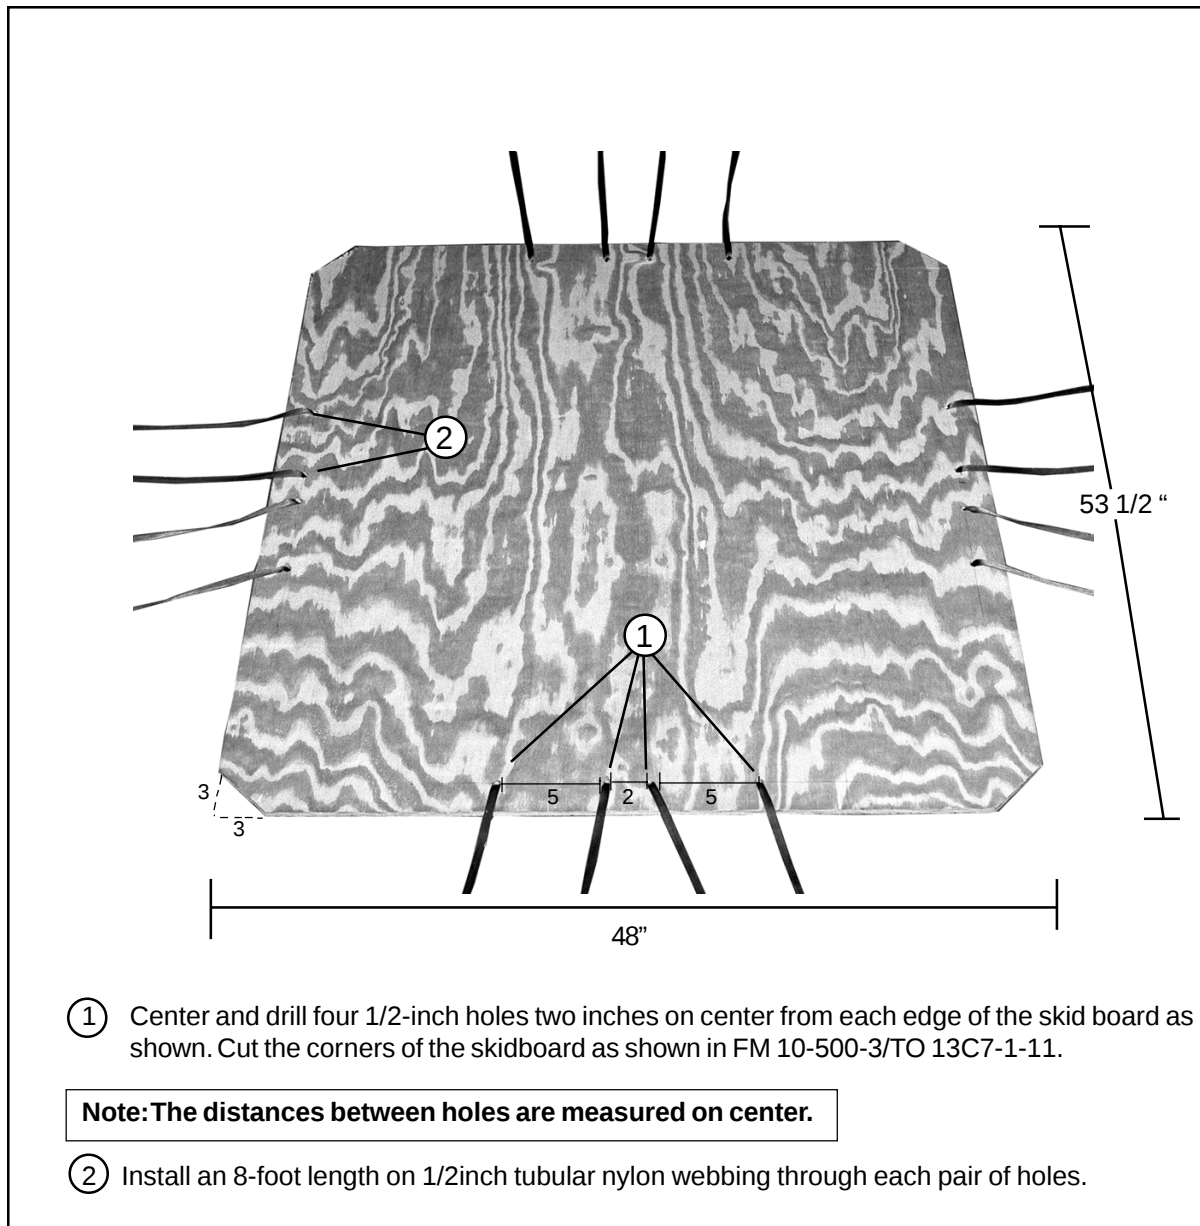

Figure 2-1. Skid Prepared
- a. Prepare the skid board as shown in Figures 2-1 and 2-2.
- a. Prepare the skid board and A-22 cargo bag as shown in Figures 2-1 and 2-2 of Section I.